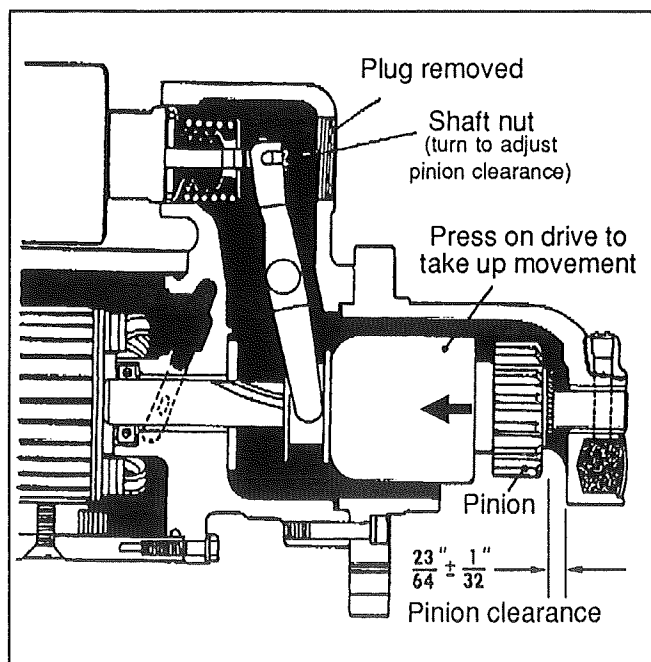

FIG. 36
Pinion clearance should be checked after reassembly of motor to ensure the clearance is within specifications. To check pinion clearance (starting motor off engine), first disconnect the motor field connector from the solenoid motor terminal. Connect 24 volt battery with the positive battery lead to the solenoid switch terminal (5), and the negative battery lead to the grounded (G) solenoid terminal. Momentarily flash a jumper lead from the solenoid motor terminal to the grounded (G) solenoid terminal. The pinion gear will now shift into cranking position and remain so until the battery is disconnected. Push the pinion or drive back towards the commutator end to eliminate slack movement. Measure the distance between pinion and pinion stop. This should be  $\frac{23}{64}'' \pm \frac{1}{32}''$  ( $9,5 \text{ mm} \pm 0,79 \text{ mm}$ ). Pinion clearance is adjusted to these limits by turning the solenoid shaft nut after removing access plug in shift housing (see fig. 36).